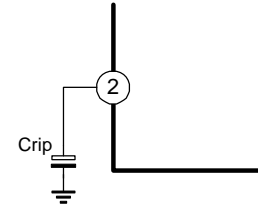

Figure 3
3. Ripple rejection (Figure 3)
Adding Crip, to the ripple terminal 2 as shown in Figure 3, the ripple rejection ratio is improved from -25dB to -45dB.